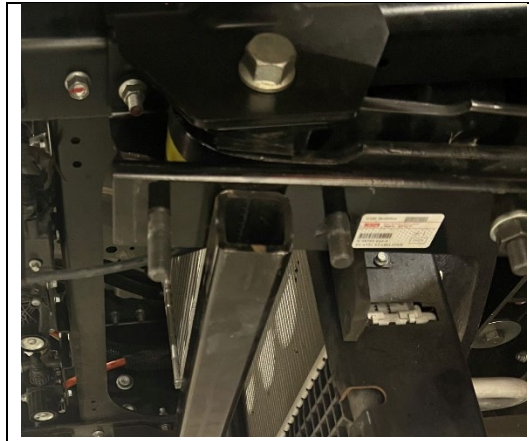

Figure 2
3. Remove the driver's side stabilizer bar bracket. (See Figure 2.)